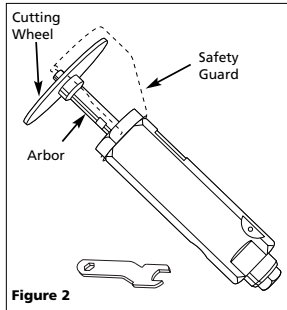

Figure 2
3. Center new cut-off wheel on arbor (See Figure 2). Make sure cut-off wheel is rated for RPM of air tool. Securely tighten cap screw.